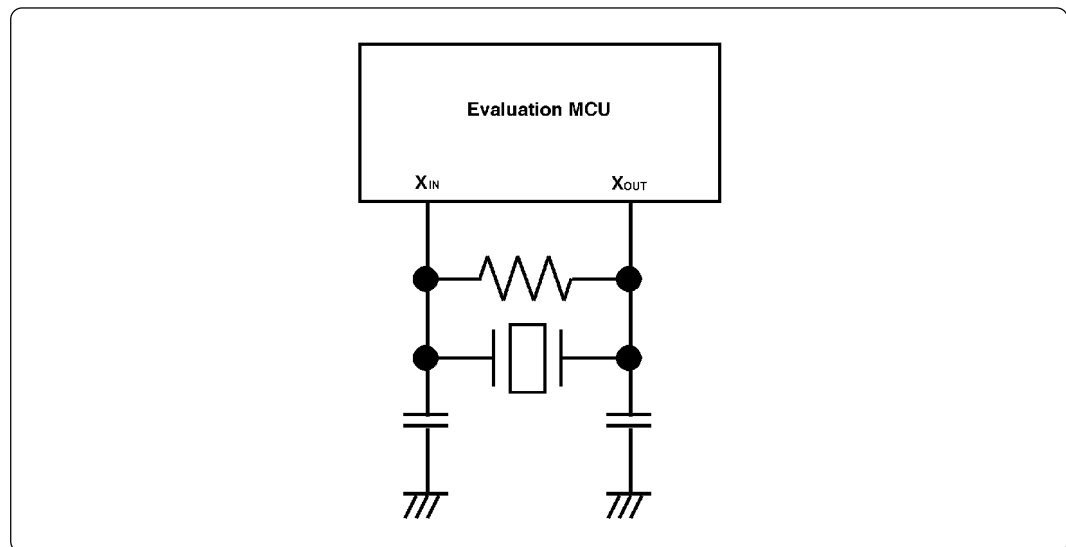

Figure 3.7 Circuit in which oscillation does not occur (same for X_{CIN} - X_{COUT})
- Make note that in the oscillator circuit shown in Figure 3.7 where a resonator is connected between pins X_{IN} and X_{OUT} , oscillation does not occur because a flexible cable, buffer IC and other devices are used between the evaluation MCU and the target system. It is same for sub-clock oscillator circuits (X_{CIN} and X_{COUT}).
(2) Changing the Internal Oscillator Circuit of the Emulation Pod